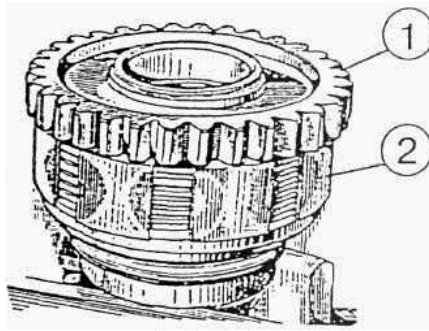

Figure 5.9
10) take gear (1) off hydraulically squeezed clutch 2 (Figure 5.9);